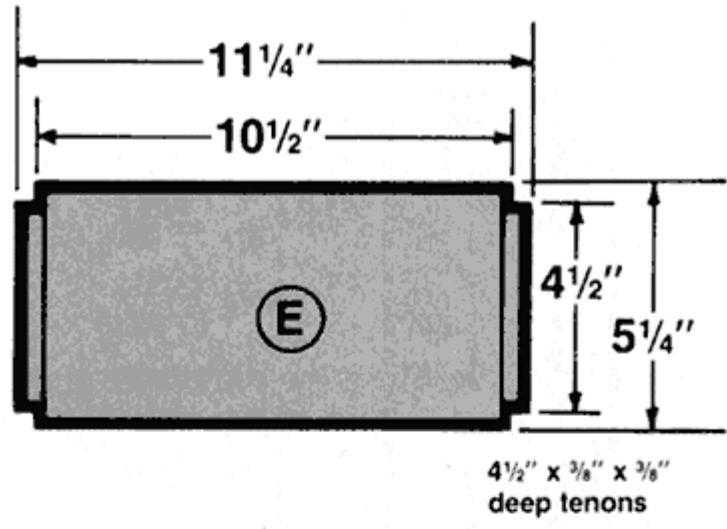

Figure 5
7: Cut the 4-1/2" x 3/8" x 3/8" tenons in the Top Ends (E), as shown in **Fig. 5.**